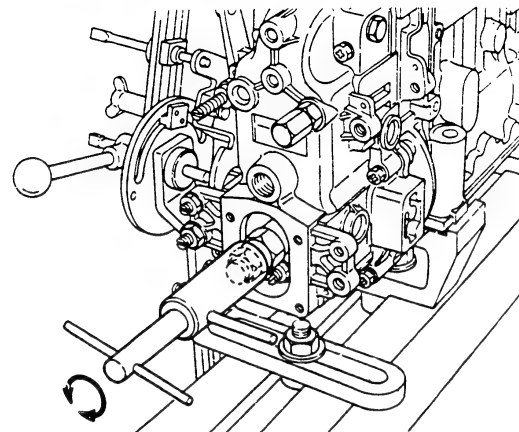

Fig. 172 No. 2 torque control spring adjustment
10. Increase the pump speed and adjust the screw so that the torque control spring starts taking effect at "Ni rpm" (refer to Fig. 172).